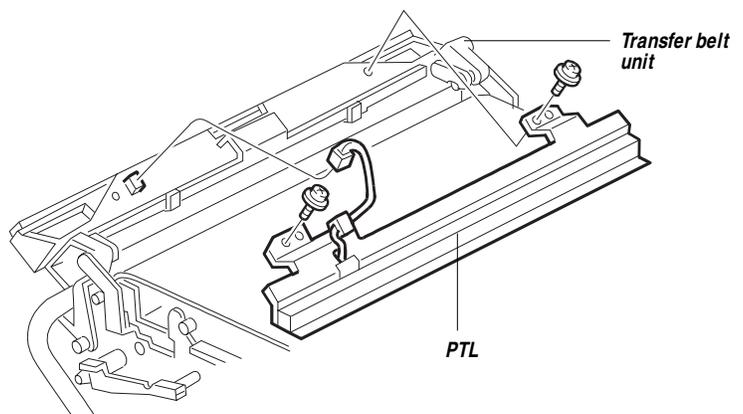

Figure 3-22 Installing the PTL
3. **Replace the PTL on the transfer belt unit with the PTL provided in this kit (see Figure 3-22).**